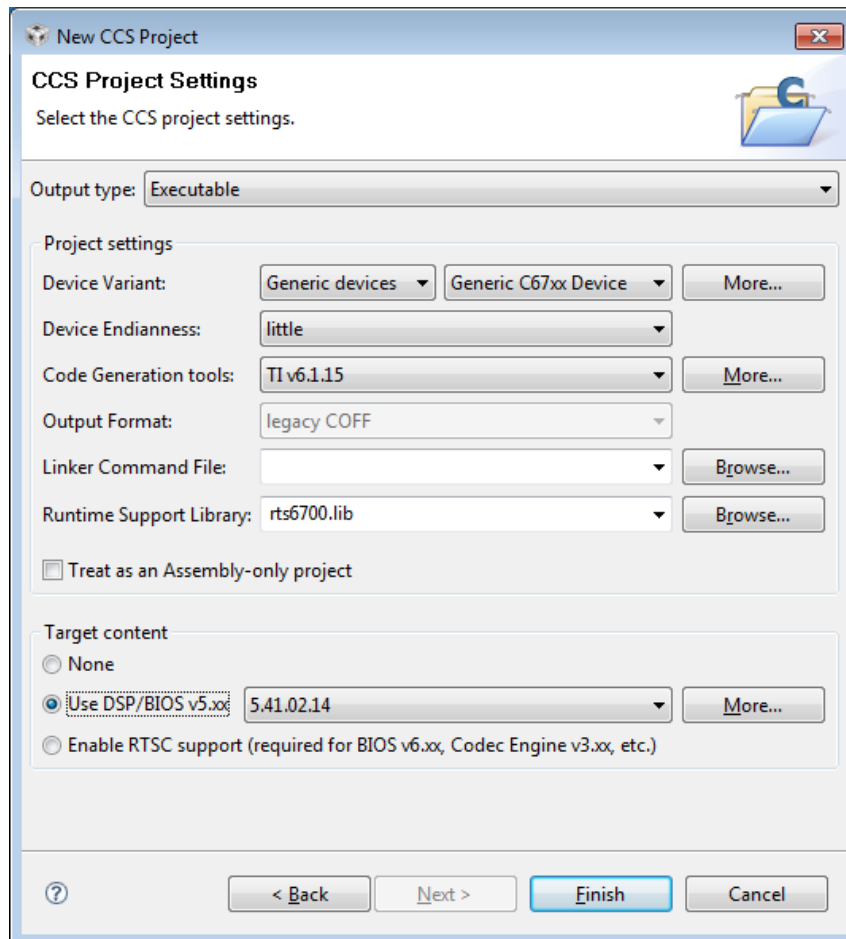

Figure 3: Final dialogue to set up project
- Hit **Next** twice (i.e. ignore the dialogue regarding **Additional Project Settings**.) Set up the dialogue as shown in figure 3. An important change from lab 1 is that the **Use DSP/BIOS** radio button is selected. This is a significant change. For this lab and subsequent ones you will be using the DSP/BIOS configuration tool to simplify some of the tasks required for creating working programs. The configuration tool is a graphical environment for modularly adding the software components you require for a particular project. For this lab we are using the configuration tool to automatically handle memory mapping but we will extend the use of the configuration tool in later labs – to assign interrupts).¹